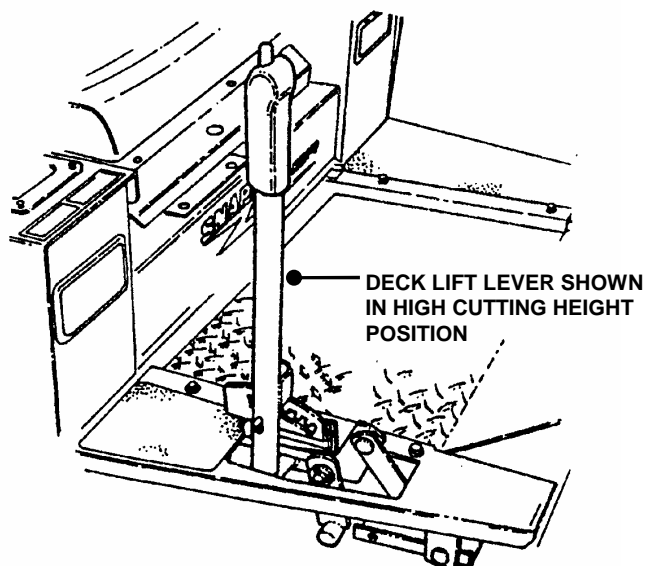

FIGURE 3.8
1. Adjust cutting height as desired to any position, using deck lift lever. See Figure 3.8.